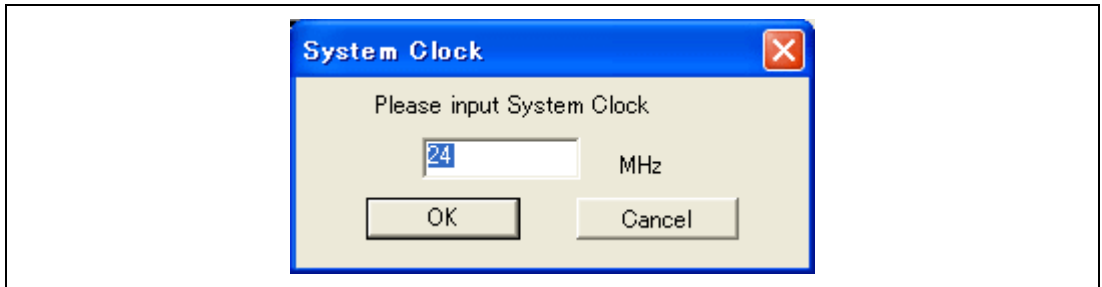

Figure 3.28 [System Clock] Dialog Box
- When using the H8 family microcomputer, the dialog box shown in figure 3.28 is opened.